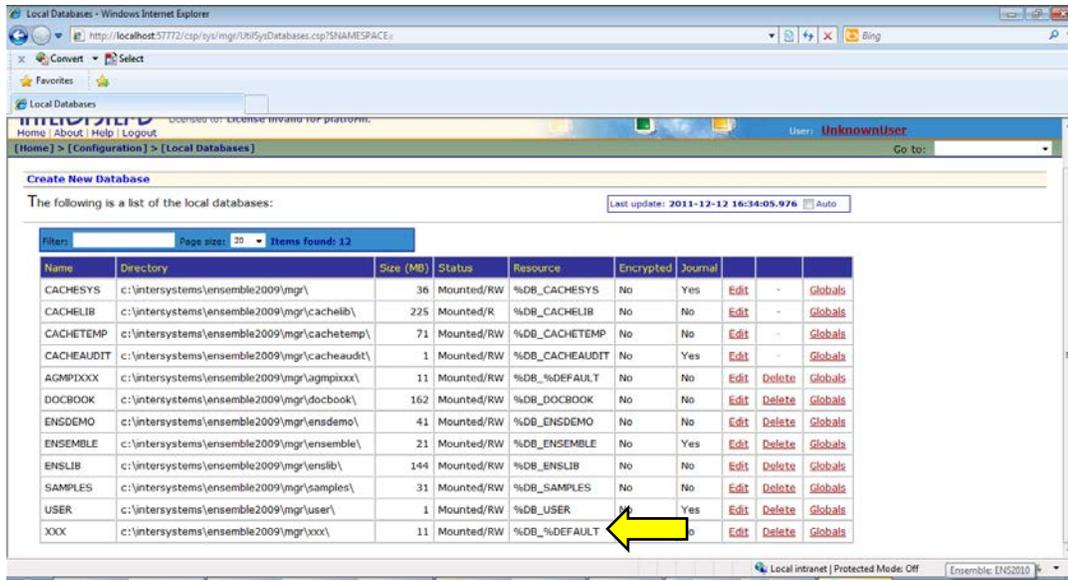

Figure 4-16: Finding the RPMS database resource
2. On the **Local Databases** page, locate the production RPMS database in the list and make a note of the resource associated with the database, as shown in Figure 4-16.